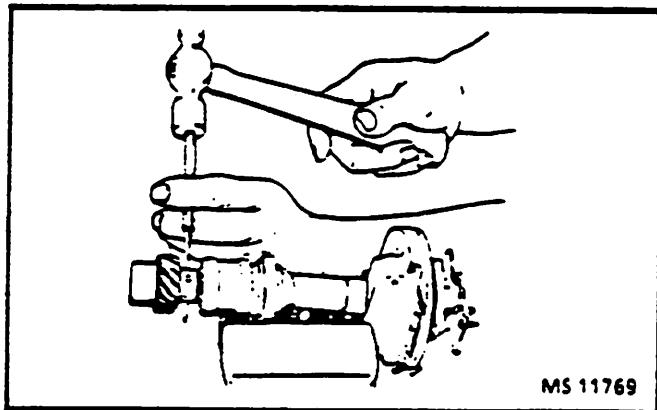

Figure 14 - Removing the Roll Pin
- Any time the distributor is disassembled, the retainer (5) must be replaced. Do not attempt to reuse the old retainer.
- 1. Screws (1) and washers holding the cap to the housing.
- 2. Cap (2) from the housing
- 3. Rotor (3) from the shaft by lifting or prying straight up
- 4. Roll pin (15) from the shaft (4).
- B. Drive out the roll pin with a small punch (Figure 14).
- 5. Driven gear (14), washer or spring (13), and spring retainer or tang washer (12).
- 6. Shaft assembly from the housing (11).
- 7. Retainer (5) from the housing (11) as follows: